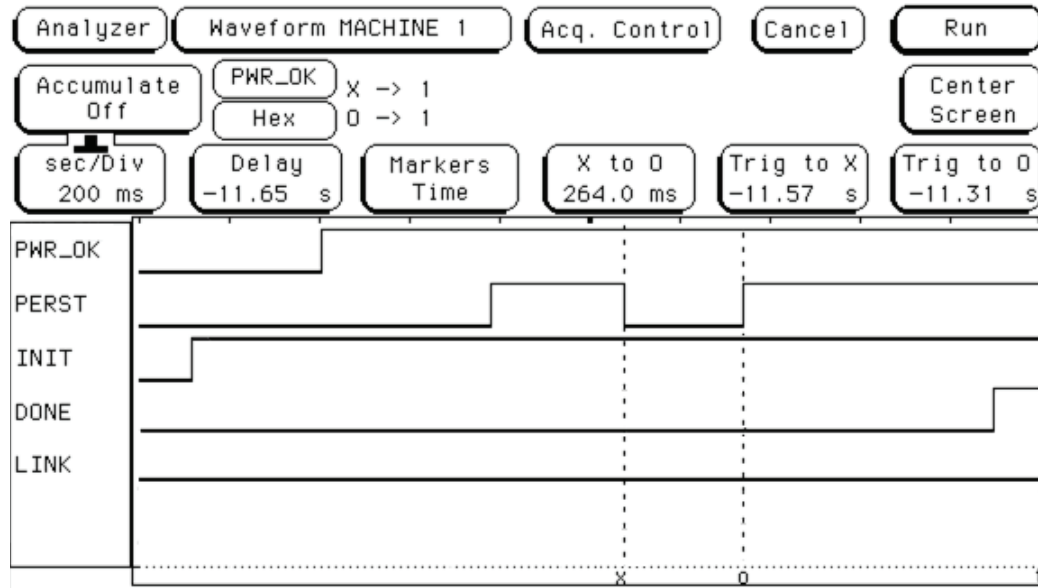
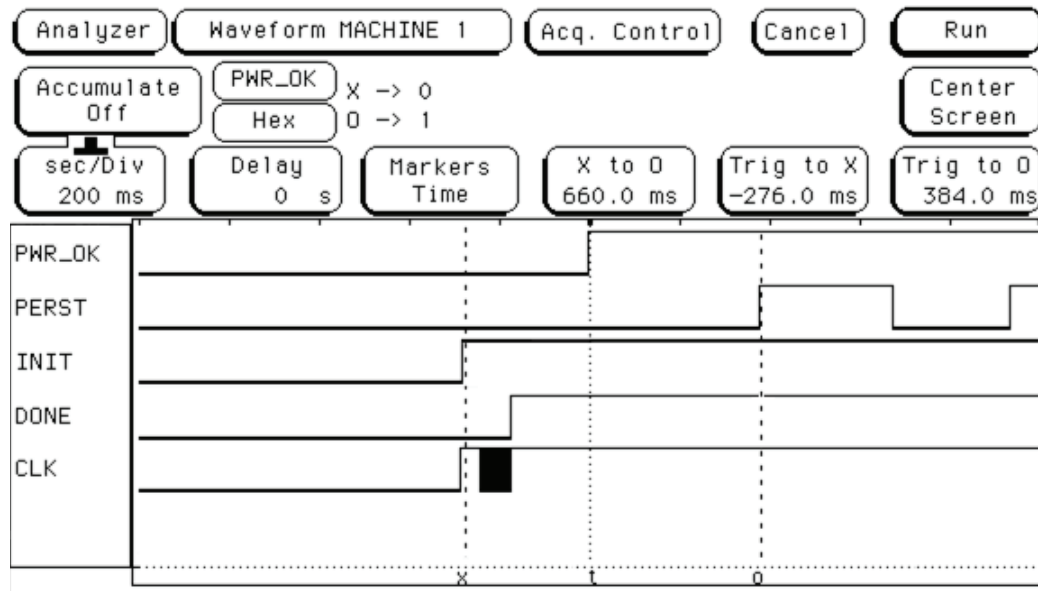

Figure 3-93: Host Fails to Recognize FPGA Due to Slow Configuration Time
Figure 3-94: Host Successfully Recognizes FPGA
This section presents data from an ASUS PL5 system to demonstrate the relationships between Power Valid, FPGA Configuration, and PERST#. Figure 3-93 shows a case where the Endpoint failed to be recognized due to a FPGA configuration time issue. Figure 3-94 shows a successful FPGA configuration with the Endpoint being recognized by the system.
Figure 3-93 illustrates an example of a cold boot where the host failed to recognize the Xilinx FPGA. Although a second PERST# pulse assists in allowing more time for the FPGA to configure, the slowness of the FPGA configuration clock (2 MHz) causes configuration to complete well after this second deassertion. During this time, the system enumerated the bus and did not recognize the FPGA.
Figure 3-94 illustrates a successful cold boot test on the same system. In this test, the CCLK was running at 50 MHz, allowing the FPGA to configure in time to be enumerated and recognized. The figure shows that the FPGA began initialization approximately 250 ms before PWR_OK. DONE going High shows that the FPGA was configured even before PWR_OK was asserted.
1. Check if the motherboard and BIOS generate multiple PERST# pulses at start-up. This can be determined by capturing the signal on the board using an oscilloscope. This is similar to what is shown in Figure 3-93. If multiple PERST# pulses are generated, this typically adds extra time for FPGA configuration.